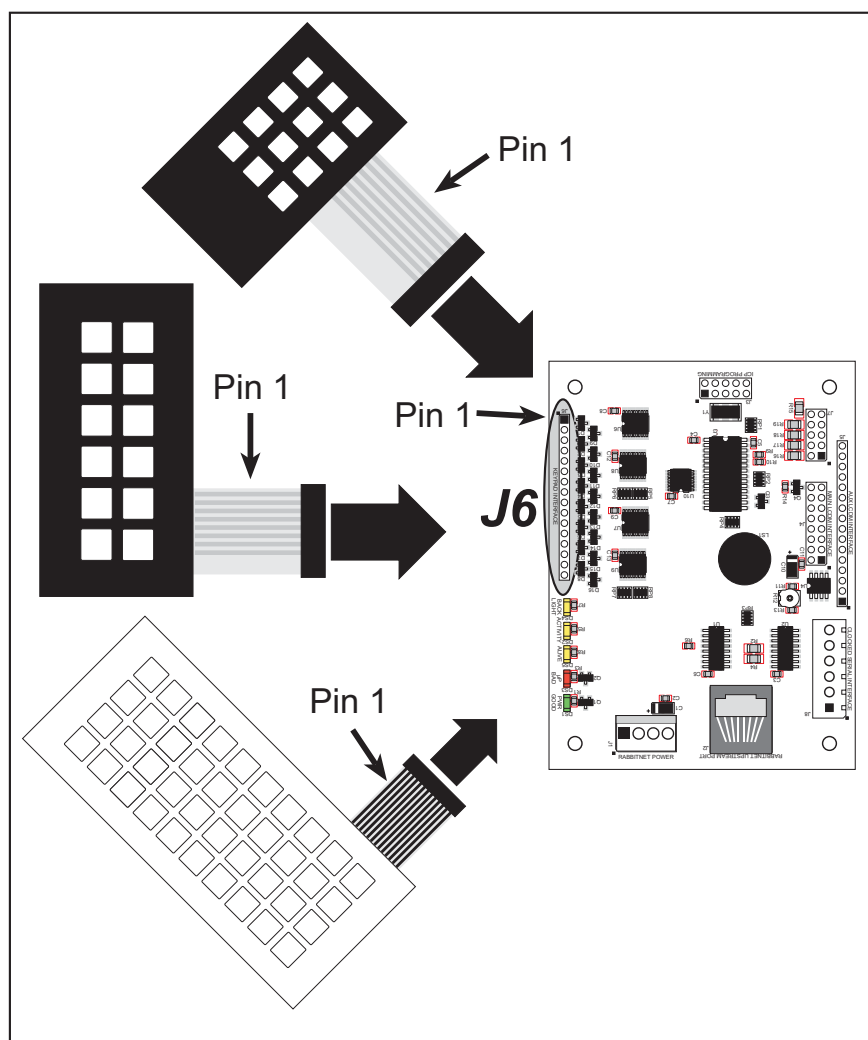

Figure A-1. Connecting Keypads to Keypad/Display Interface Header J6
Connect pin 1 of the keypad to pin 1 of the Keypad/Display interface header J6 as shown in Figure A-1. Follow the pin 1 locations as shown in the diagram and disregard the blue dot that may be present on one side of the connector.
1. Connect pin 1 of the 2×6 keypad to pin 1 of the Keypad/Display interface header J6 as shown in Figure A-1.